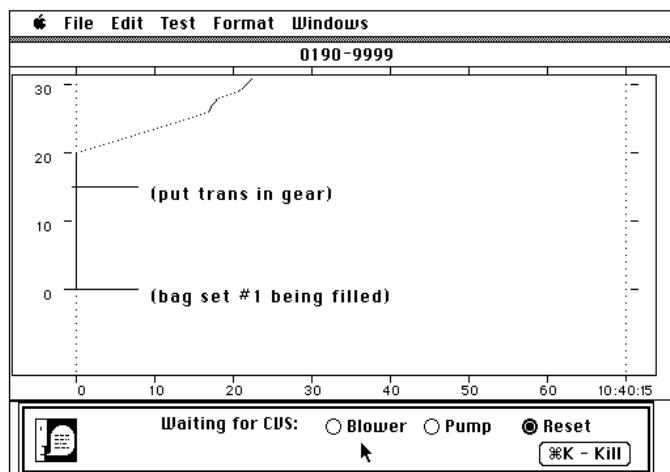

Figure 2
- 303 (Site Operator) CVS Operation - Turn on the CVS blower and cooling fan(s) just prior to starting the test. After ensuring that the CVS blower is in the “ON” position, turn on the CVS sample pumps. Ensure that the indicators on the VDA screen for “Blower” and “Pump” are on. See Figure 2 for the FTP and 2A for the HFET. Turn the CVS test mode selector switch to “Reset” and back to “Vehicle Test” to reset the VDA and zero the CVS V-mix counters.